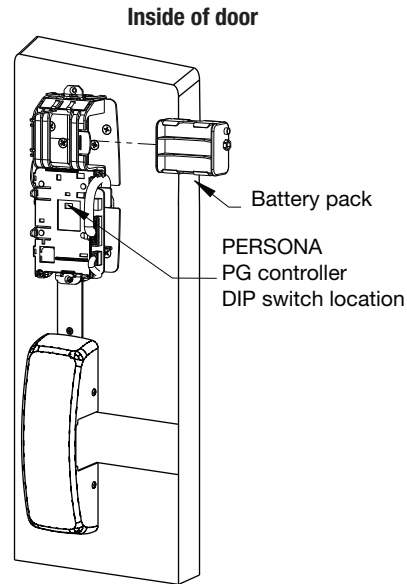

Fig. 7A
1. Place (6) "AA" batteries into the compartment, being careful to properly align polarity (- & +).
2. Insert battery pack and click into place making sure polarity terminals on the battery pack are oriented upward as in Fig. 7A.
PERSONA PG Controller DIP Switch Settings (Fig 7A):